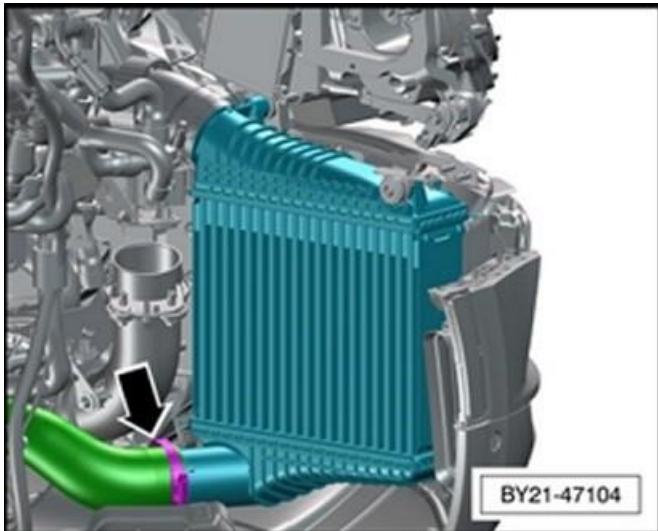

Figure 1
- Referring to Figure 1 – Remove the right and left hand lower charge air cooler pipes, any oil found in the charge cooler/pipe should be drained off, any remaining oil residue should be cleaned from the charge coolers and pipes